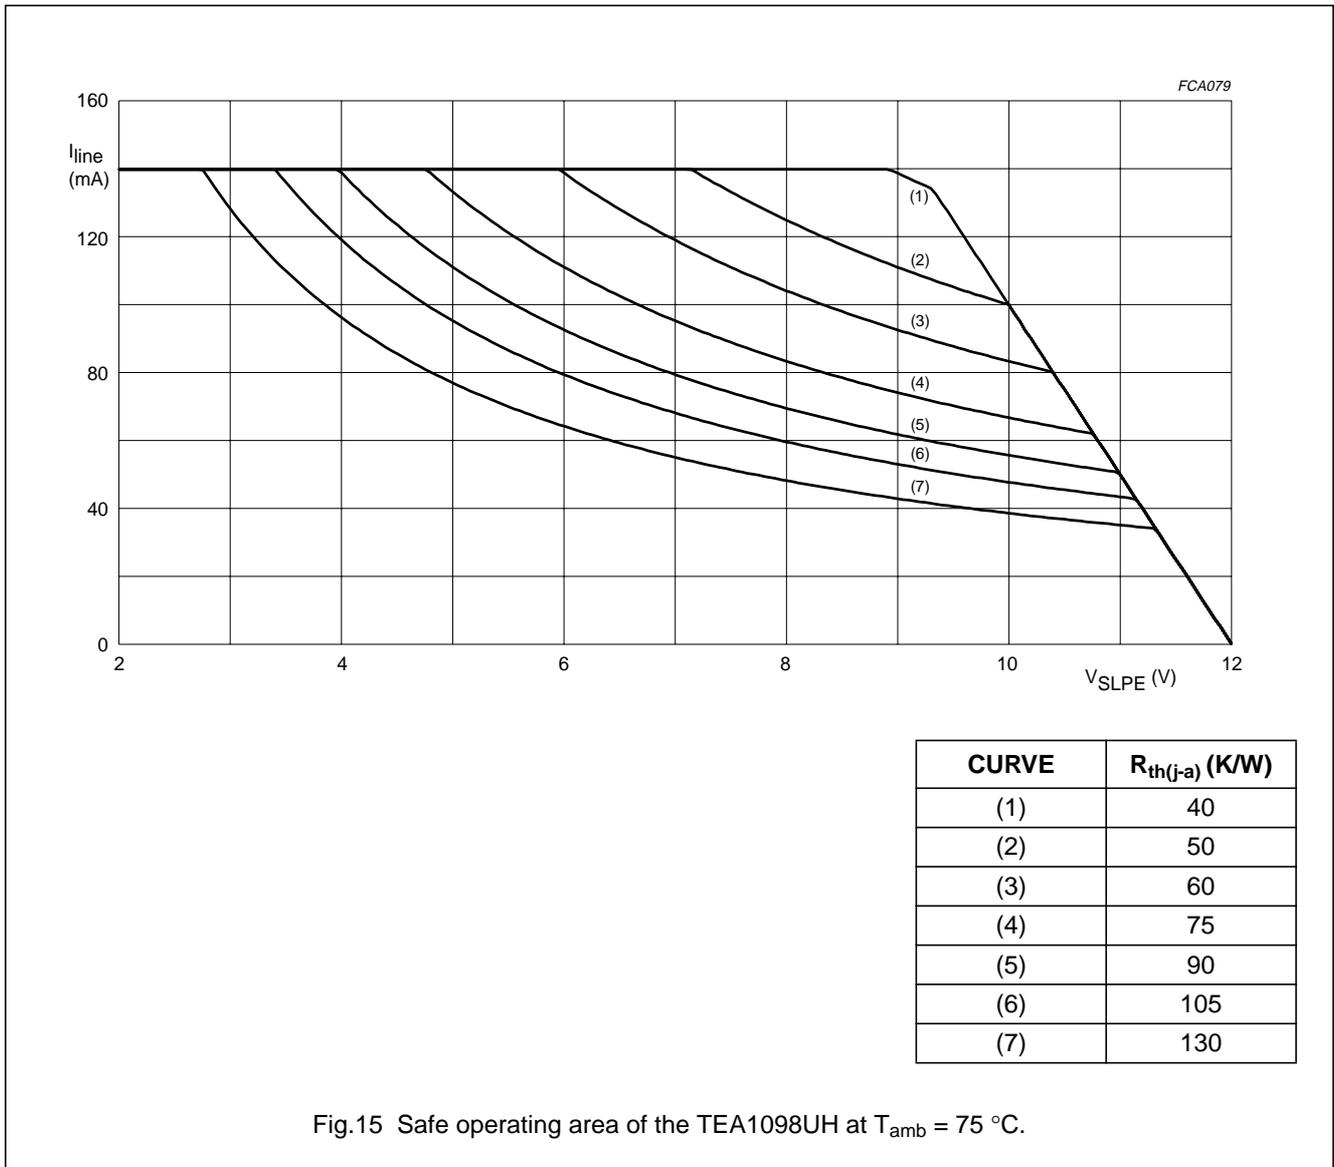

Fig.15 Safe operating area of the TEA1098UH at $T_{amb} = 75\text{ °C}$.
- Mostly dependent on the maximum required ambient temperature, on the voltage between LN and SLPE and on the thermal resistance between die and ambient temperature. This thermal resistance depends on the application board layout and on the materials used. Figure 15 shows the safe operating area versus this thermal resistance for ambient temperature $T_{\text{amb}} = 75\text{ }^{\circ}\text{C}$.